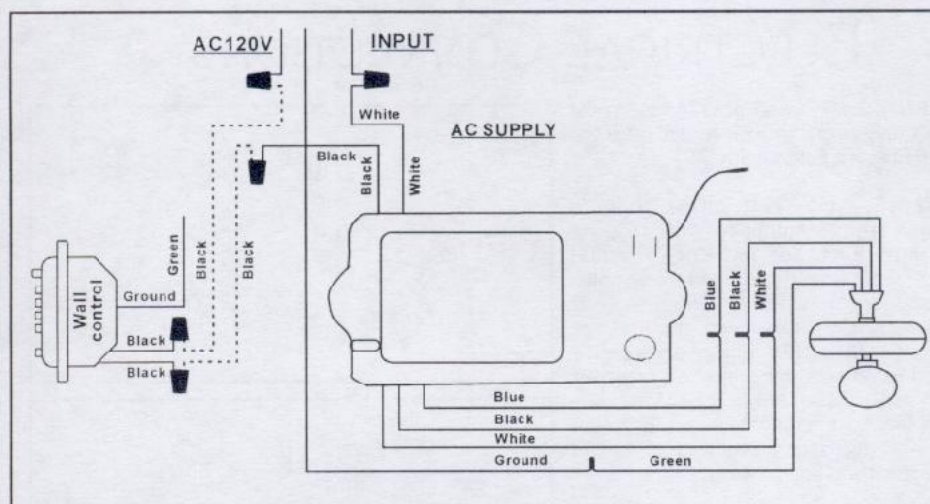

FIG 14
**Step 2.** Make the electrical connections as shown in (Fig. 14). If your outlet box has a ground wire (green or bare copper) connect the wall transmitter's ground wire to it; otherwise connect the wall transmitter's ground wire directly to one of the screws from the outlet box.